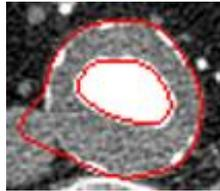

**Figure 12** - Gradual expansion of previously detected lumen contour toward the wall boundaries
**Wall** detection is available in both, single or bifurcation segmentation type mode. In order to perform wall detection previously detected lumen contour must exist. After lumen detection is finished, as user preferred, in order to start wall detection just Wall button should be checked. After clicking on button detect, in detection mode region on toolbar, wall detection is started by showing first image in image series on which lumen contour is detected. Wall detection is performed by gradually expanding previously detected lumen contour toward the wall boundaries iteratively. After detection is finished, on current image, program will automatically go to the next image with detected lumen and same procedure will be repeated until wall detection is finished on all images with lumen contours, **Figure 12**, or if user stops the detection.